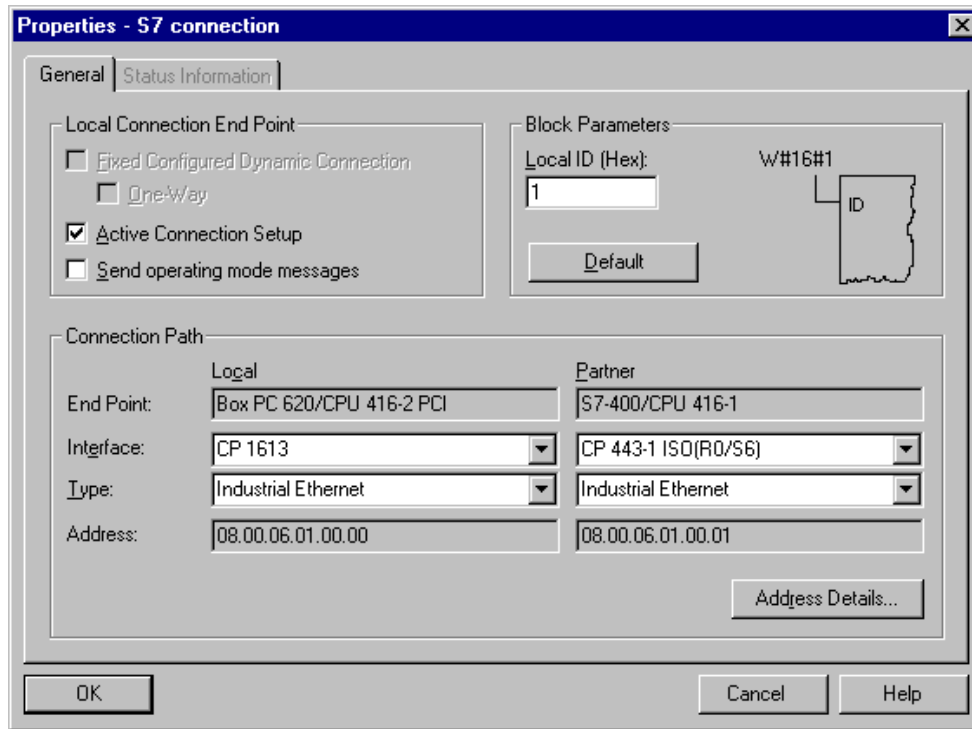

Figure 3-9 Connection Properties
6. Confirm with “Apply”. The “Connection Properties” dialog box appears (Figure 3-9).
7. Check the settings (interface and type) as in Figure 3-9.